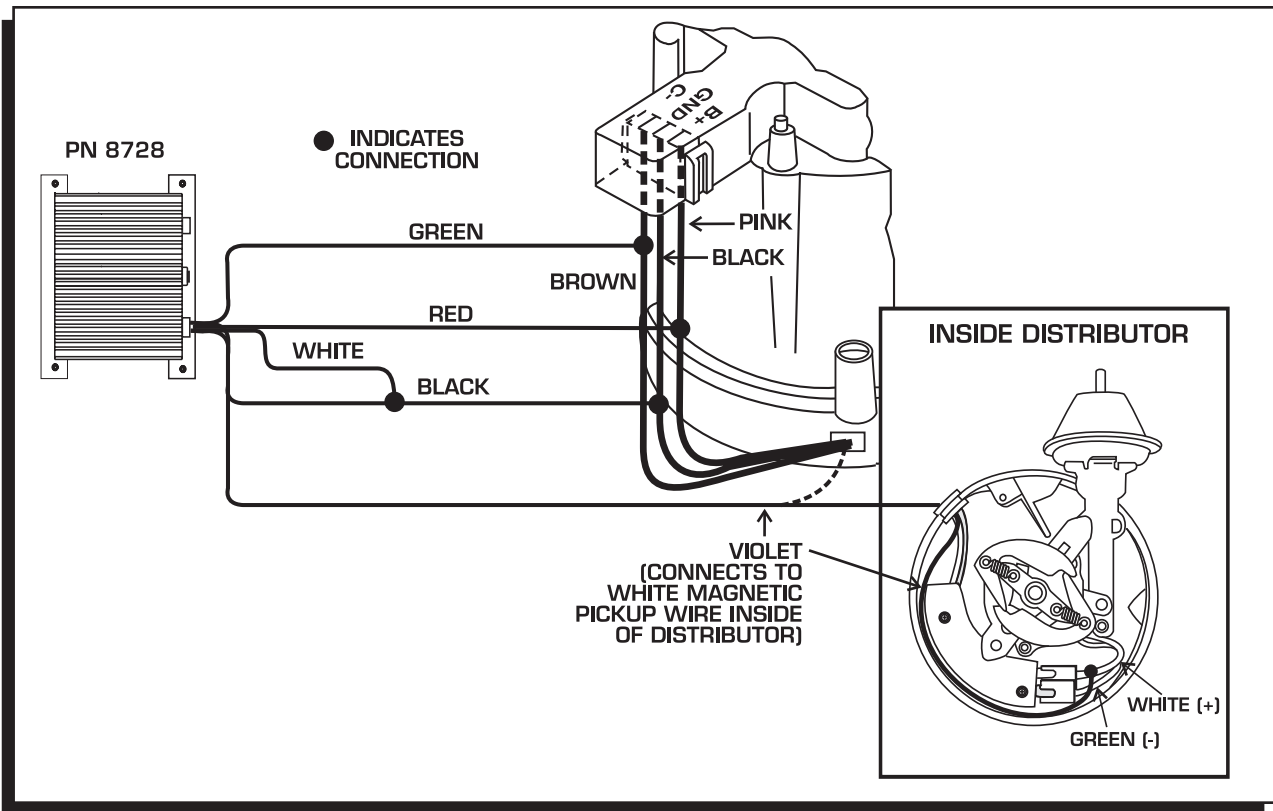

Figure 5 Wiring to a GM HEI Distributor using the Magnetic Pickup.
**Note:** The GM Unitized Coil, HEI Distributor was produced with several different modules. If this installation seems to cause a rough limit, try the wiring shown in Figure 5 below.